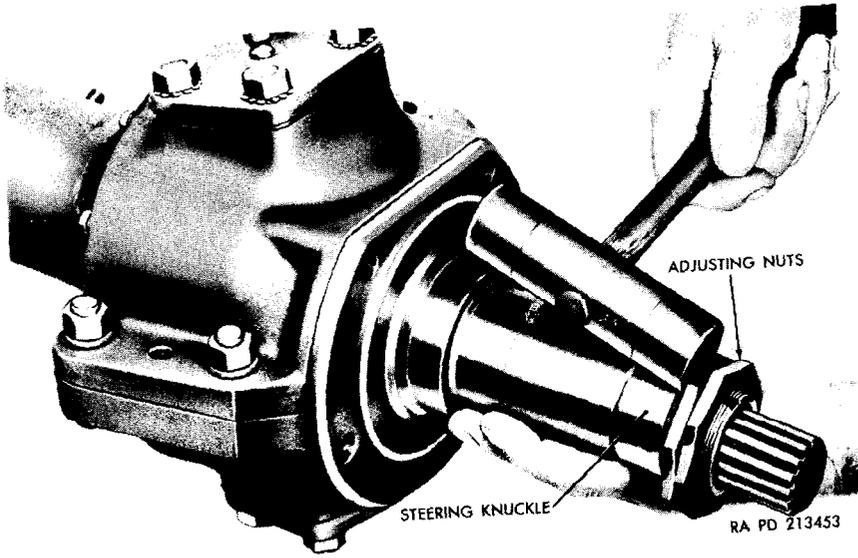

Figure 174. Removing steering knuckle.
- (3) If the steering knuckle cannot be removed by pulling it from the flange, temporarily install the wheel bearing adjusting nuts on the knuckle and strike the nuts with a plastic hammer to free the steering knuckle (fig. 174). Remove the knuckle, outer shaft, and female portion of the universal joint. Separate the parts.